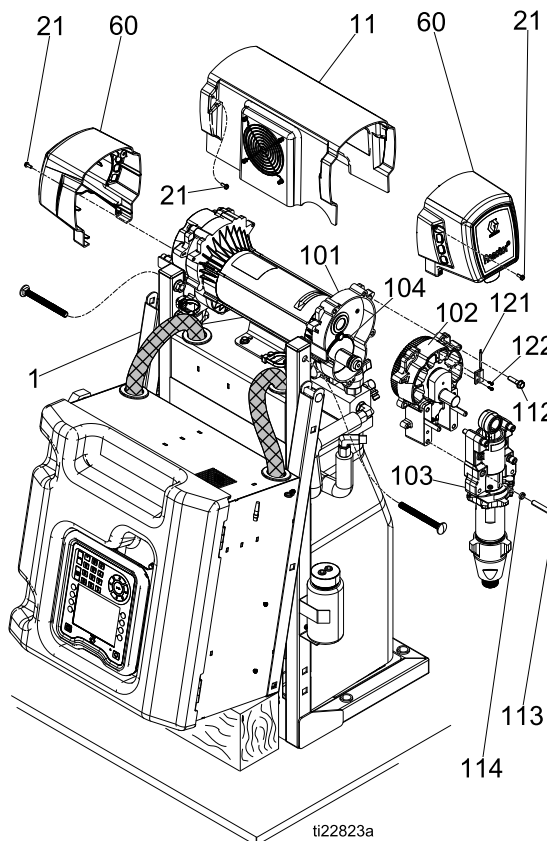

Figure 4
1. Ensure locknut (G) is screwed on pump with flat side up. Screw pump into bearing housing (M) until pin holes align. Push pin (F) in. Pull retaining wire clip (E) down. See Fig. 4 for view and assembly notes.
2. Continue screwing pump into housing until fluid outlet (D) is aligned with steel tube and top threads are +/- 1/16 in. (2 mm) of bearing face (N).
3. Tighten locknut (G) by hitting firmly with a non-sparking hammer.
4. Reconnect fluid inlet (C) and outlet (D).